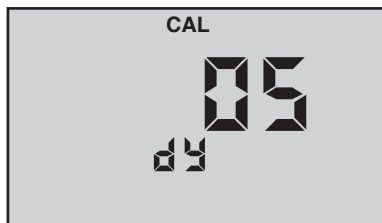

Figure 15
9. Press  to accept the change (new day) (see Figure 15).